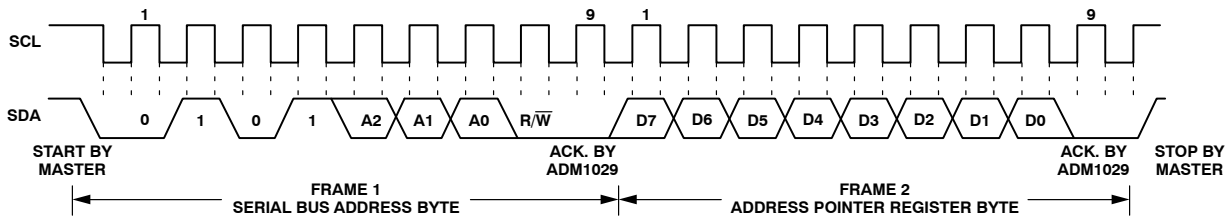
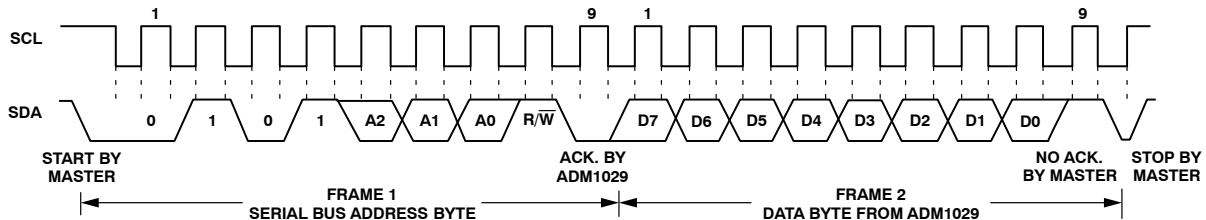

Figure 19. Writing to the Address Pointer Register Only
Figure 20. Reading Data from a Previously Selected Register
1. If the ADM1029's Address Pointer Register value is unknown or not the desired value, it is first necessary to set it to the correct value before data can be read from the desired data register. This is done by performing a write to the ADM1029 as before, but only the data byte containing the register address is sent, as data is not to be written to the register. This is shown in Figure 19. A read operation is then performed consisting of the serial bus address, $R/\overline{W}$ bit set to 1, followed by the data byte read from the data register. This is shown in Figure 20.
2. If the Address Pointer Register is known to be already at the desired address, data can be read from the corresponding data register without first writing to the Address Pointer Register, so Figure 19 can be omitted.